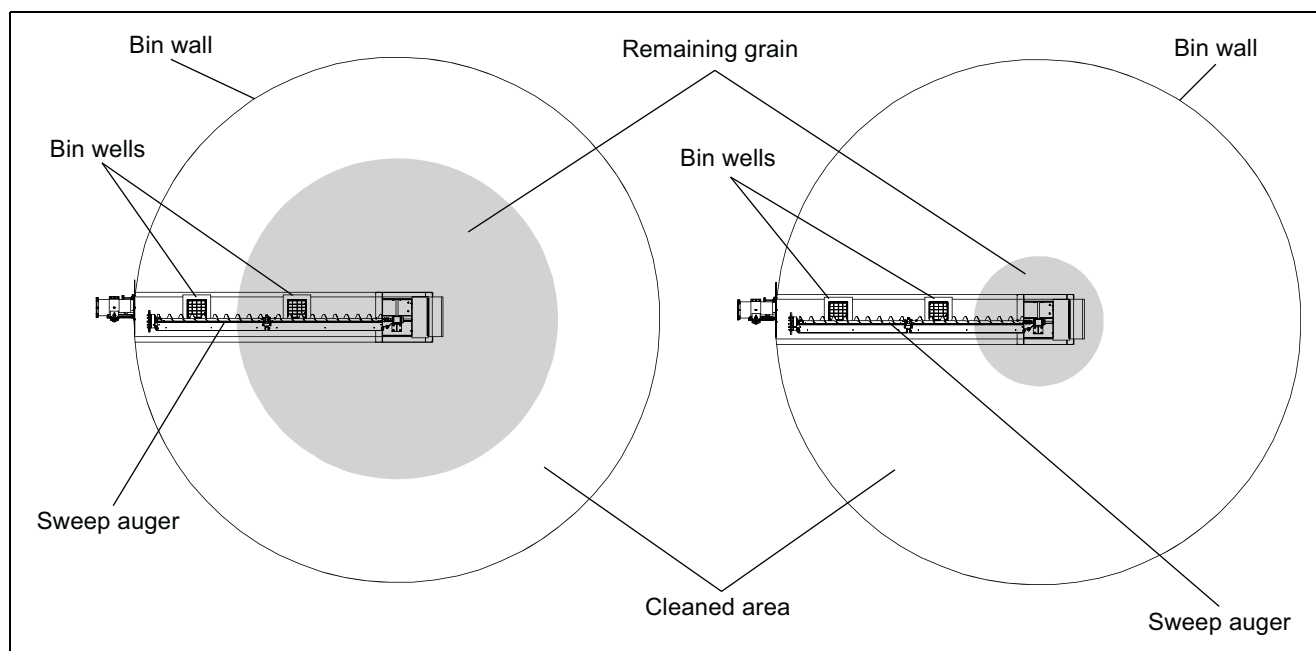

Figure 5I Top View of Bin
1. Clean (scoop and sweep by hand) the outer area of the floor into a circular pile towards the center of the bin. (See Figure 5I.)